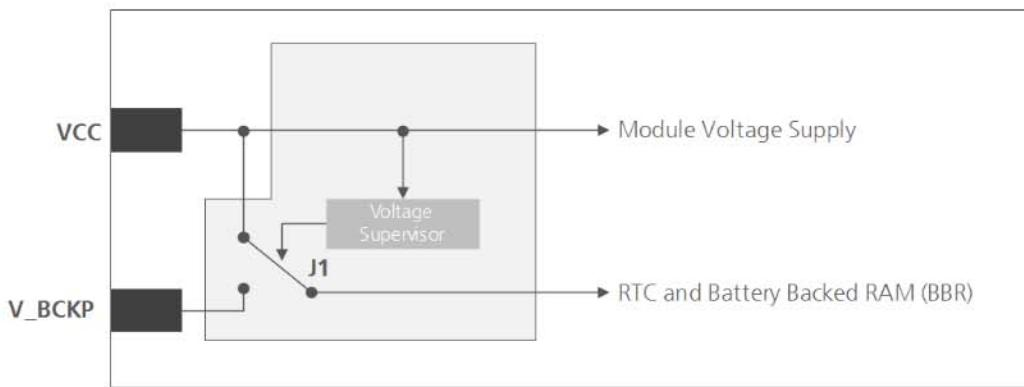

Figure 1: Backup battery and voltage
- ☞ As long as VCC supplies the CAM-M8 antenna module, the backup battery is disconnected from the RTC and the BBR to avoid unnecessary battery drain (see Figure 1). In this case, VCC supplies power to the RTC and BBR.